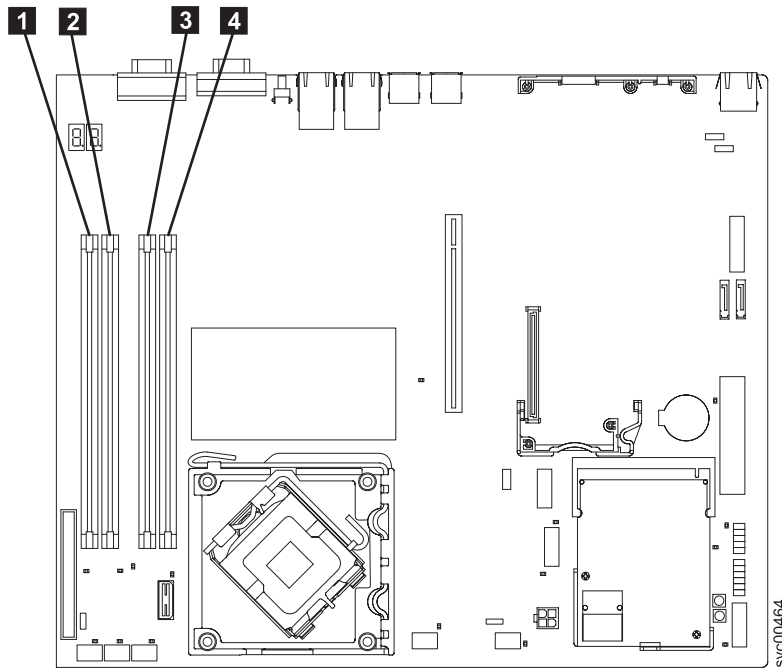

Figure 96. Locating the SAN Volume Controller 2145-8A4 memory modules
- SAN Volume Controller 2145-8A4: These modules are numbered **1** through **4**, as shown in Figure 96 on page 114.